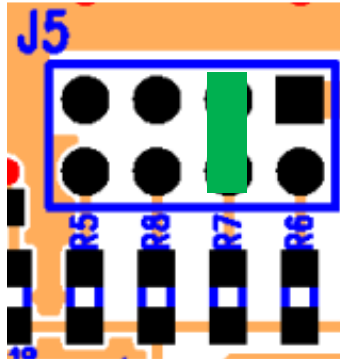

Figure 2: Output Voltage selection jumpers J5
STEP 5: Select the output voltage setting jumper. Figure 2 shows what output voltages are achieved by selecting each jumper position. Note that depending on the tolerance of the resistors populated on the board, each output voltage setting may have a larger tolerance than just the VFB pin as specified in the datasheet. Please see Figure 5 and the Bill of Materials section.